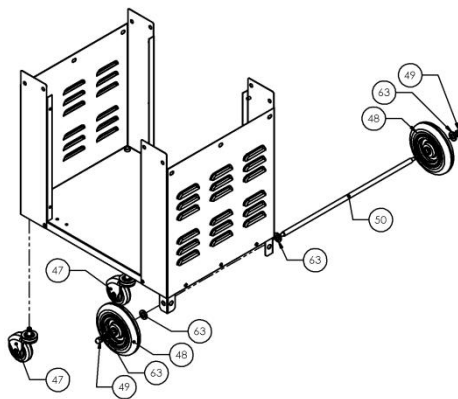

Figure 3
- 3) Install casters into tubes located on the bottom of the assembly. Insert the axle rod into holes on bottom pan assembly (60) then insert 2 nylon washers (63) one on both ends of the axle (50). Insert 2 wheels (48) onto axle. Secure using 2 nylon washers (63) and 2 5/6-18 acorn nuts (49). A 5/8" wrench (not included) will be needed to secure the nuts. Do not over tighten acorn nuts (49). See Figure 3.